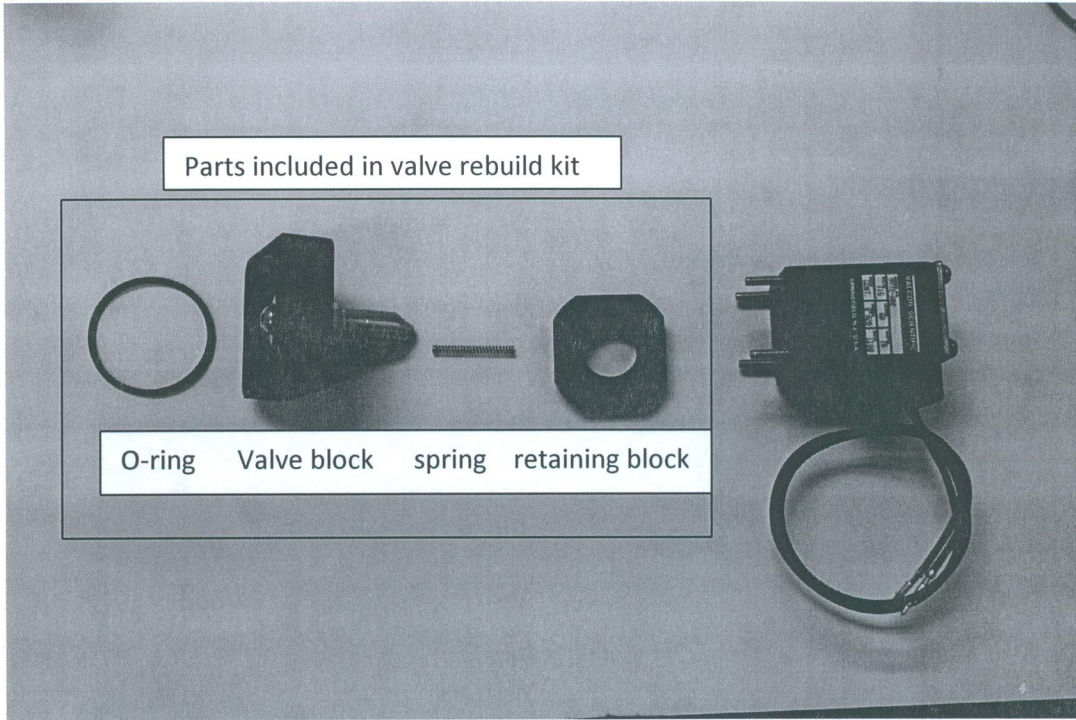

Fig 7
- Disconnect the A side flow switch electrical connector. Refer to figure 7.